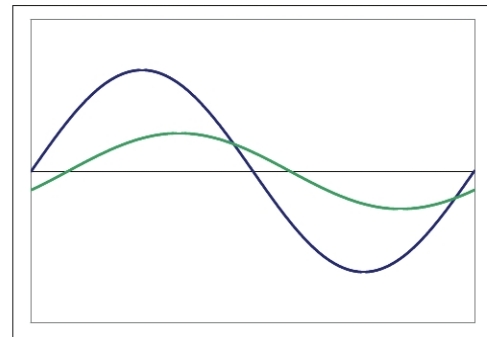

Figure 2
- With an inductive load, the current lags behind the voltage as shown in Figure 2.